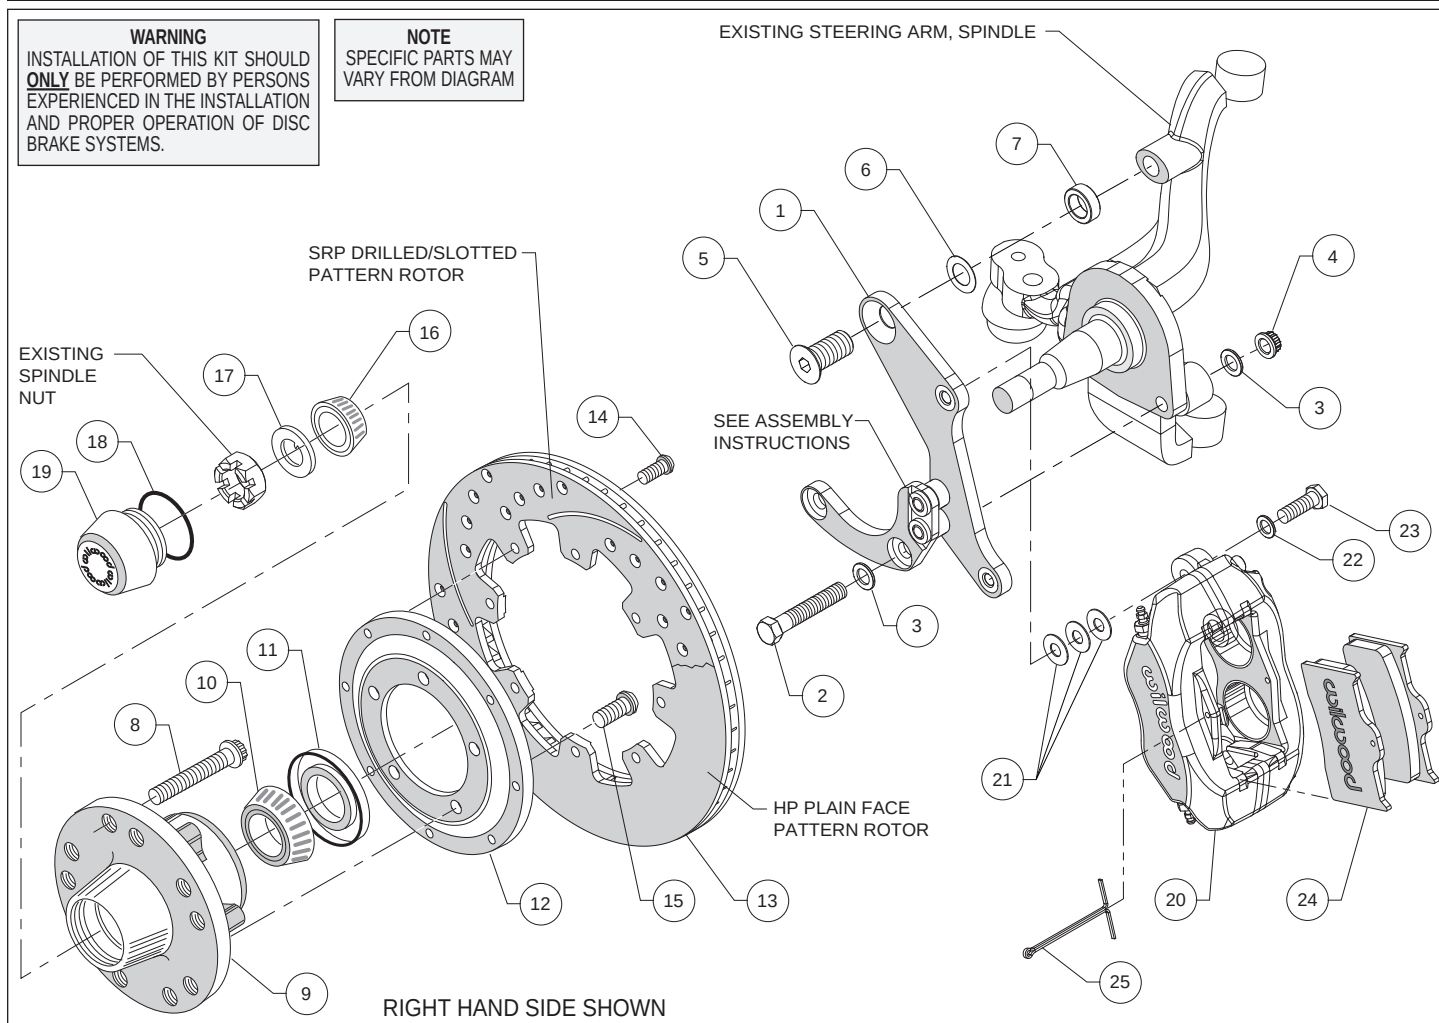
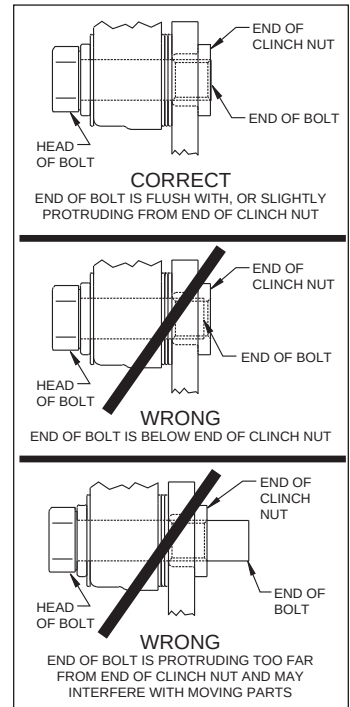

Figure 1. Typical Installation Configuration
Figure 3. Clinch Nut Engagement Diagram
Assembly Instructions (numbers in parenthesis refer to the parts list and Figure 1 on the preceding pages): **CAUTION:** All mounting bolts must fully engage clinch nuts. Be sure to check that all bolts are either flush or protruding through flanged side of clinch nut after shimming, Figure 3.
•The caliper mounting bracket (1) has been assembled at the factory for alignment purposes. Loosen the two bolts that secure the brackets together so that the bolts are hand tight only. This will enable the bracket assembly to be adjusted to accommodate various spindle tolerances during assembly. Align bracket with the two lower holes on the spindle face and attach using bolts (2), and washers (3), and secure using nuts (4), as shown in Figure 1 and Photo 1. Install bolt (5) through top of bracket while placing shim (6) and spacer (7) between bracket and spindle, Figure 1. Initially use one .015" thick shim (6) on the top bolt between the bracket and upright. Temporarily tighten the mounting bolts. Ensure that the flanged heads of the clinch nuts in the bracket are facing outboard, Photo 1. **NOTE:** The bracket must fit squarely against the mounting points on the spindle. Inspect for interference from casting irregularities, machining ridges, burrs, etc.
•Check that the bracket is aligned parallel to the rotor by assembling and installing the hub/rotor per the steps below. If not, adjust by adding or subtracting shims (6) between the spacer (7) and bracket, Figure 1.
- Install the grease seal (11) by pressing into the backside of the hub (9), flush with the end of the hub, Photo 3.
- Orient the rotor (13) and the rotor adapter (12) as shown in Figure 1 and Photo 4. Attach the rotor to the adapter using bolts (14). Using an alternating sequence, apply red *Loctite*® 271 to the threads, and torque to 25 ft-lb.
- Mount the adapter/rotor assembly (12/13) to the hub (9) using bolts (15), as shown in Figure 1 and Photo 5. Using an alternating sequence, apply red *Loctite*® 271 to the threads, and torque to 55 ft-lb.
- Pack the small outer bearing cone (16) with high temperature disc brake bearing grease and install into hub (9). Slide the hub/rotor assembly onto the spindle. Secure using spindle washer (17) and OEM spindle nut, Photo 6. Adjust bearings per OEM specifications. Install saved OEM nut lock (if any) and a new cotter pin (not supplied).
- Screw dust cap (19) into hub (9), Photo 7. Friction created by the o-ring (18) on the dust cap keeps it from unscrewing. **NOTE:** The O.D. of the existing OEM spindle washer may be larger than the I.D. of the dust cap not allowing it to seat against the hub face. Therefore, use the spindle washer (17) supplied with the kit instead of the OEM washer.
- NOTE:** Please reference the caution statement at the beginning of the assembly instructions. Mount the caliper (20) onto the caliper mounting bracket (1) using bolts (23) and washers (22), as shown in Figure 1. Initially place two .035" thick shims (21) on each bolt between the caliper and the bracket, Photo 8. Temporarily tighten the mounting bolts and view the rotor (13) through the top opening of the caliper. The rotor should be centered in the caliper, Photo 9. If not, adjust by adding or subtracting shims between the bracket and the caliper. Always use the same amount of shims on each of the two mounting bolts. **NOTE:** The end of each bolt must be flush with or slightly protruding from the head of the clinch nut, as shown in Figure 3. If necessary place spare shims between washer (22) and caliper mounting ear to achieve the proper clinch nut engagement. Once the caliper alignment and clinch nut engagement are correct, remove the bolts one at a time, apply red *Loctite*® 271 to bolt threads, and torque to 40 ft-lb.
- Install the disc brake pads (24) into the caliper, with the friction material facing the rotor (13), and secure in place using cotter pin (25), Photo 10.